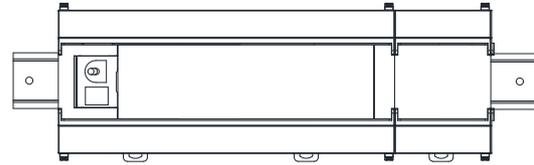

Fig 2-1 Installation diagram
- *Checking carefully that the DIN snap-fit is tightly fixed to the DIN guide rail, as shown in Figure 2-1.